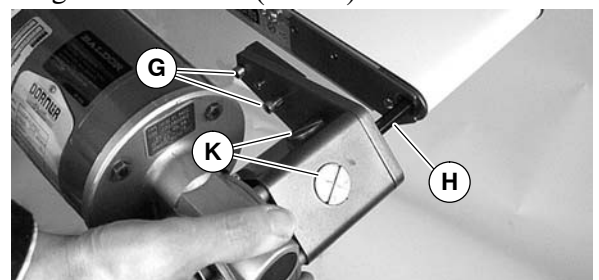

**Figure 9**
**NOTE:** Coupling has two (2) set screws (L of Figure 9).